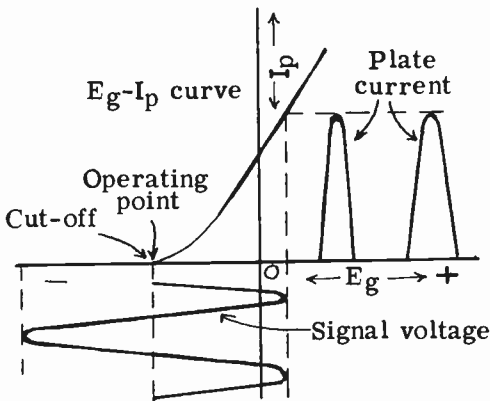

FIG. 9-3. CLASS B OPERATION.
**CLASS B AMPLIFICATION.** In a Class B amplifier, the grid is biased at approximately the cut-off point. This is shown in Fig. 9-3. With no signal, there is very little plate current flow. The Class B amplifier characteristics are as follows:
(1) Plate current flows only during the positive half of the signal. The negative half of the signal cuts off the tube. This amplifier operates in a manner similar to that of a rectifier in that it conducts only when the signal is positive.
(2) The amplifier is operated over the entire length of its characteristic curve so that large plate current swings can be obtained. The large plate current swing is necessary if large power output is to be realized.
(3) The efficiency for Class B operation is between 40% and 60%. It is